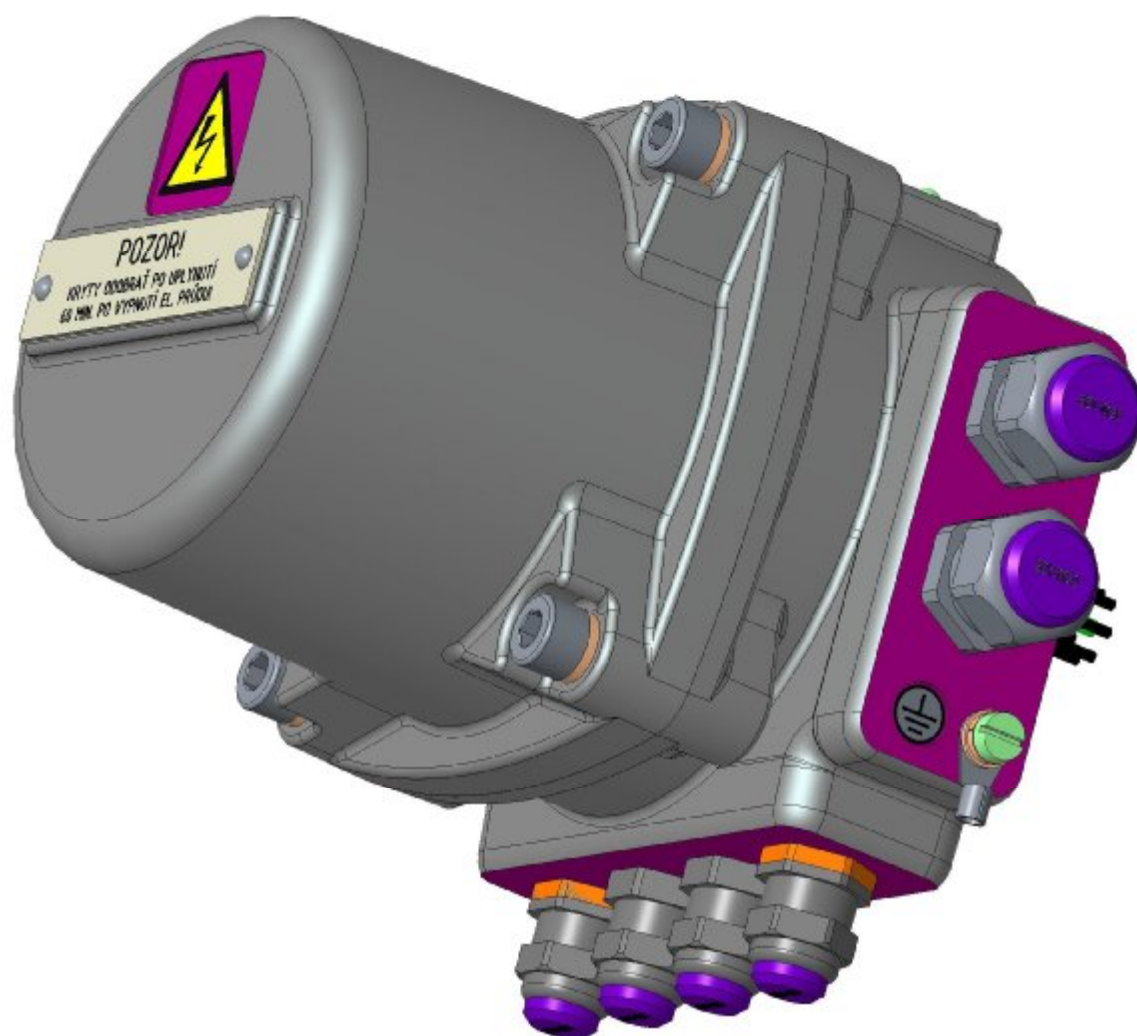

Fig. 1B
- Electrical connection in separate terminal box with protection type "e" (Fig. 1B).